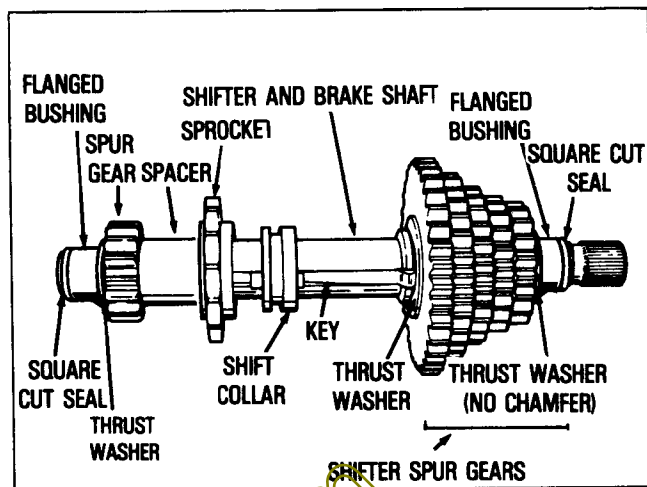

FIGURE 7
- From the shifter and brake shaft, remove the square cut seals (2) and flanged bushings (2), thrust washers (2) on shaft ends, spur gear, spacer, sprocket, shift collar with keys, shifter spur gears and thrust washer. (See Figure 7).